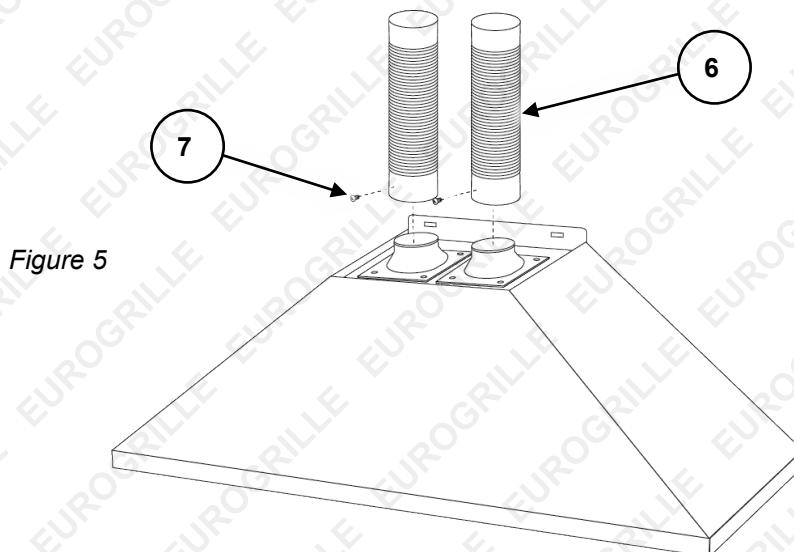

Figure 5
8. Refer to *Figure 5*. Place the end of the vent pipes (6) over the exhaust valves and secure them with 4 #6 self-tapping screws (7).